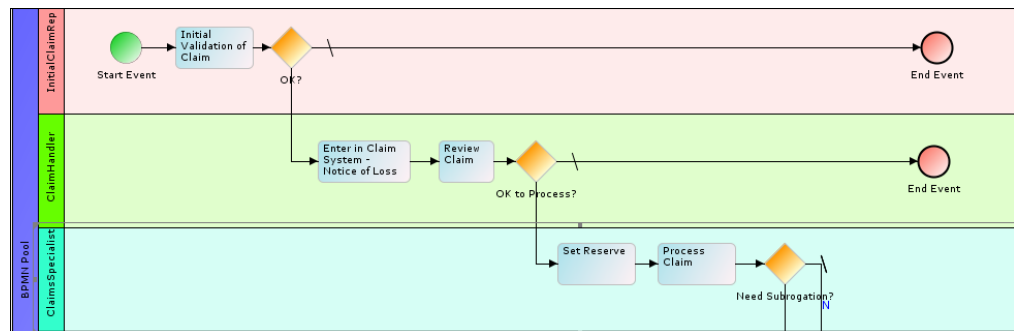

Figure 7.30: New Color for Swim Lane
3. Select the color for the selected swim lane and click **OK**. This changes the label and background color for the selected lane (see Figure 7.30).